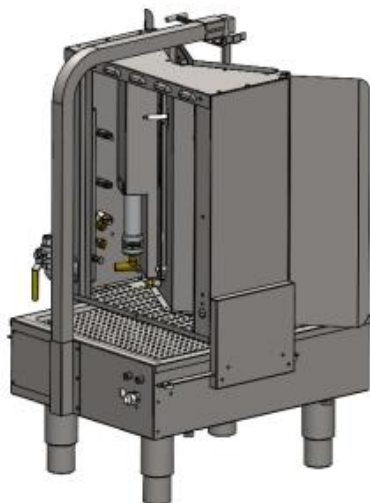

FIGURE-2
2. Remove the back cover (figure-2)